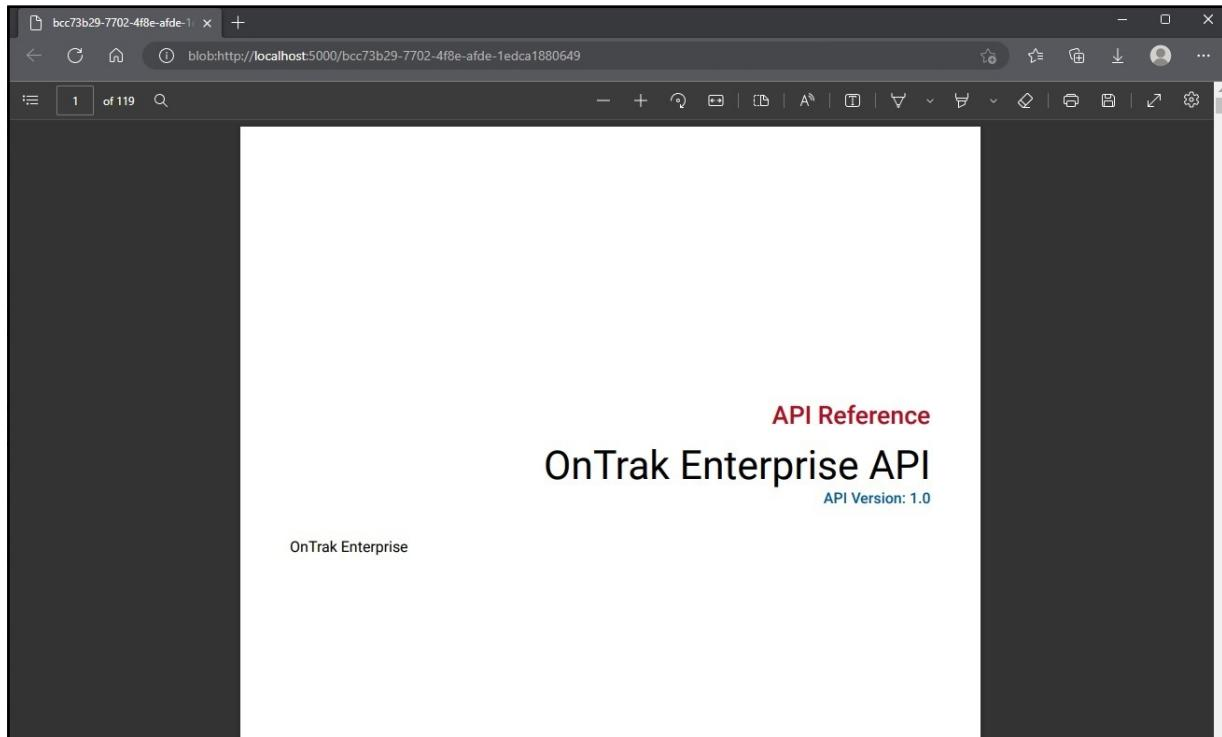

Figure 13-5. API Document Opened In Internet Browser
5. Review the API documentation (see Figure 13-5 on page 171).